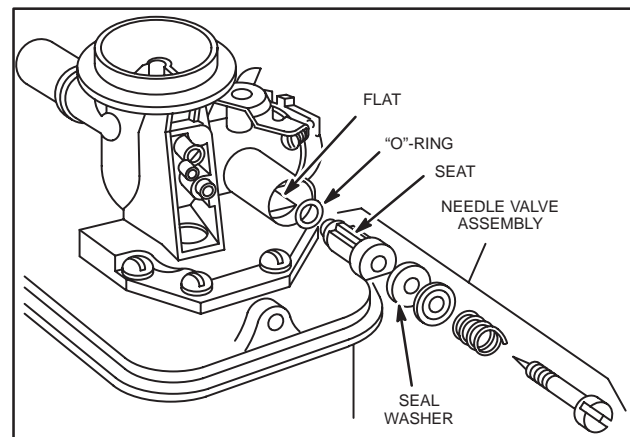

Fig. 247 – NEEDLE VALVE ASSEMBLY, PRESSED-IN TYPE
2. Then turn needle in until large seal washer just touches needle seat, Fig. 247.
4. Install needle valve as an assembly being sure flat on valve seat lines up with flat in carburetor body, Fig. 247.
**NOTE:** On later carburetors, a slot was added to top of needle valve assembly bore to line up with rib on needle valve assembly, Fig. 247.